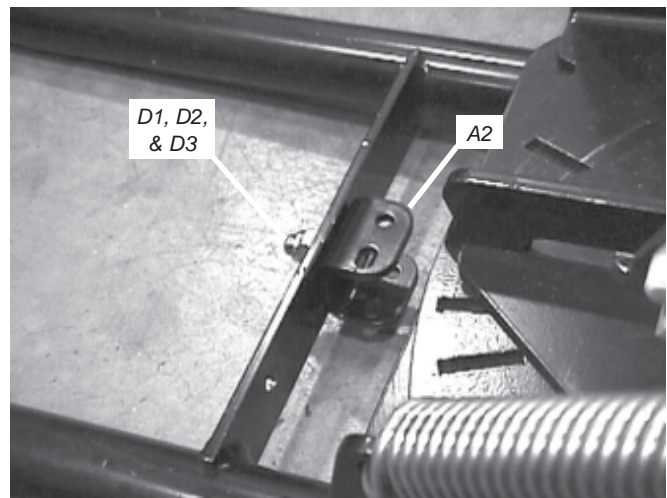

Figure 3 Installed J-bolt Bracket
5. Attach the J-bolt bracket (A2) to the center hole in the plow crossmember using a 3/8" dia x 1" long bolt (D1) as shown in figure 3. The bracket should be mounted on the blade side of the crossmember with the side flanges parallel to the ground. Terminate the bolt with a 3/8" dia flat washer (D2) and 3/8" dia nylock nut (D3). Tighten the bolt and nut to a recommended torque of 20 ft-lb (28 N-m).